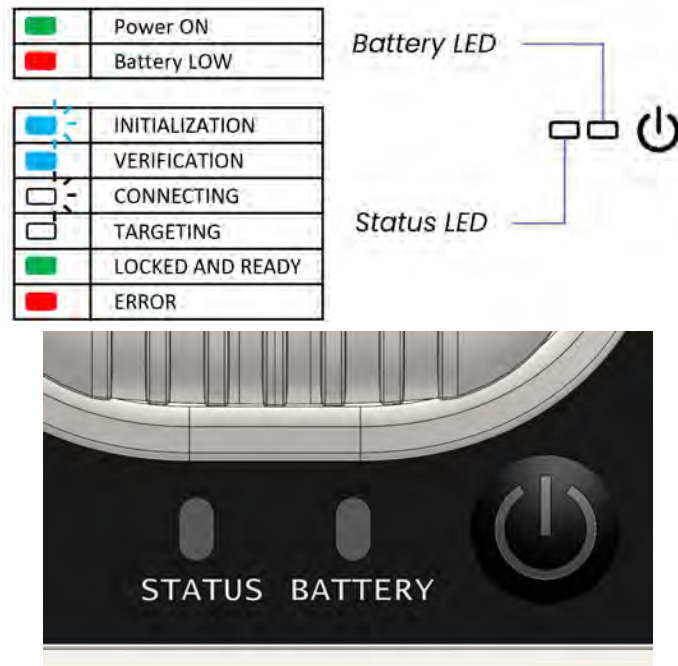

Figure 3: Battery and Status LED Indicators.
4. Power on the CERTA Access Device, Integrated Ultrasound Probe and CERTA Tablet, allow it to perform a self-test and continue with the steps below. See Figure 3 for an explanation of the Battery and Status LED indicators which are located on the top of the CERTA Access Device.